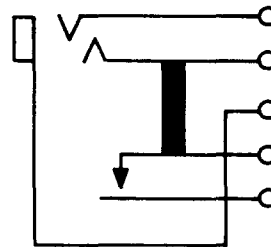

Fig. 12—295 Jack
**2.12 295:** This strip-mounted jack (Fig. 12) is used with the 310 plug. The 295 jack is furnished only on orders for jack mountings. This jack is used with 107, 108, 109, 110, 112, 115, 116, 131, 136, 137, 217A, 232A and 250A jack mountings.